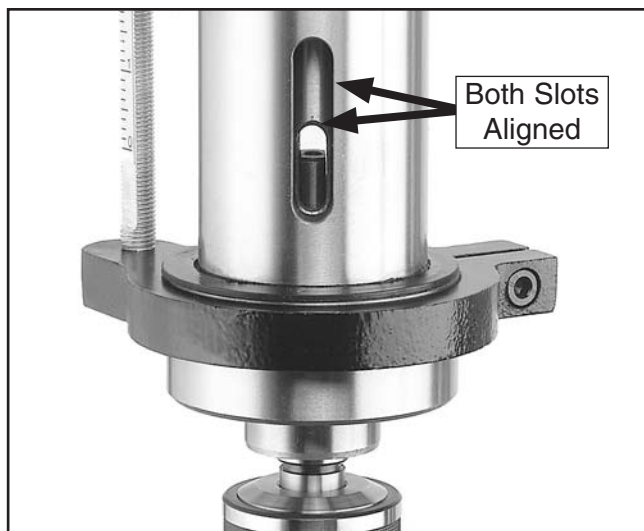

Figure 31. Inner and outer drift-key slots aligned.
4. Rotate the spindle until the inner drift-key slot is aligned with the outer slot, as shown in **Figure 31**. You will see through the spindle when the slot is properly aligned.